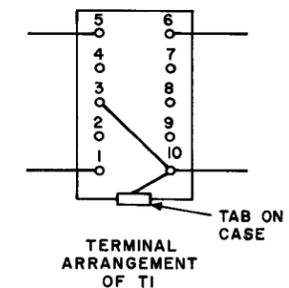
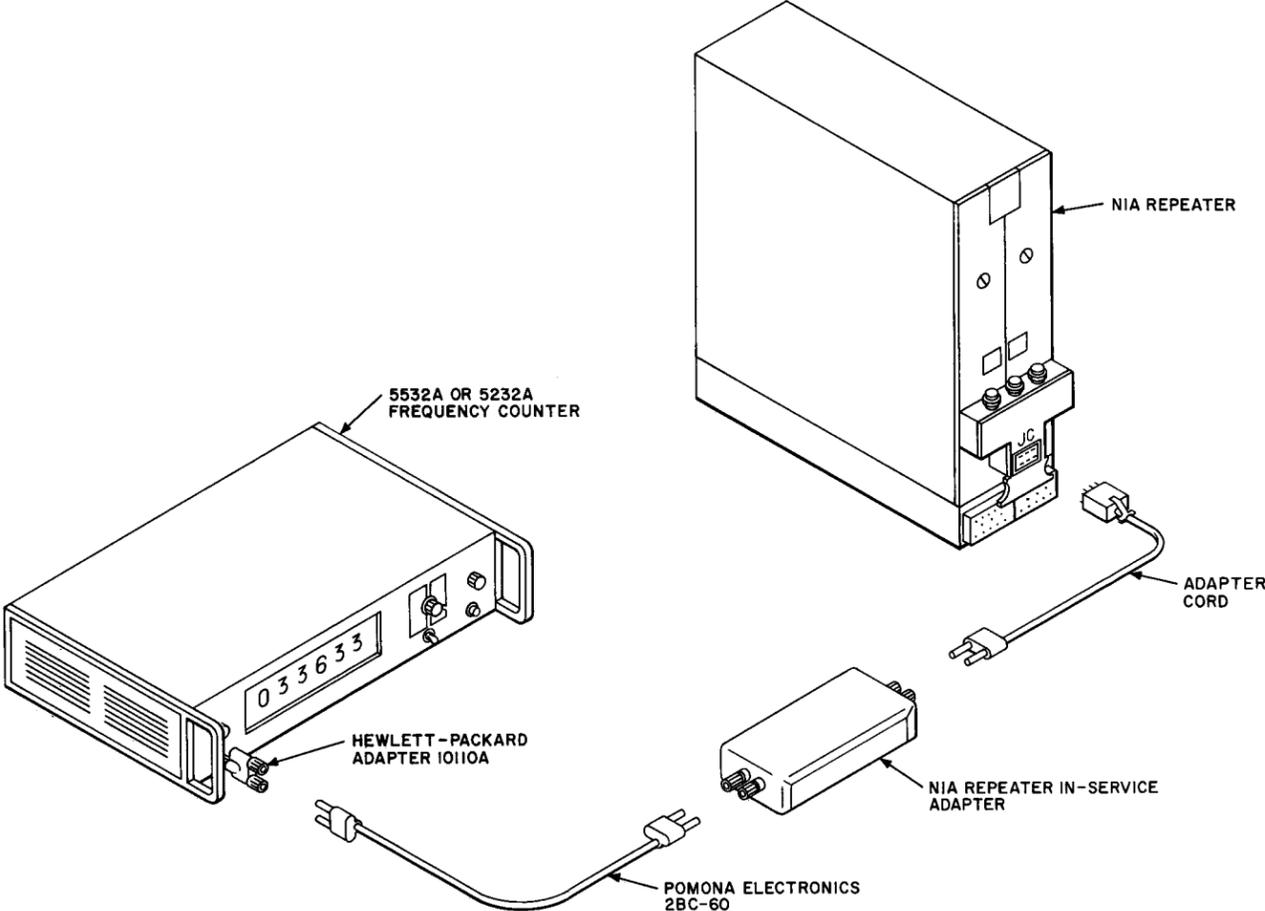

Fig. 1 — 304-KHZ Oscillator Frequency Measurement Adapter Unit for N1A Carrier Repeaters, Schematic
Fig. 4 — 304-KHZ Oscillator Frequency Measurement for NIA Carrier Repeaters
- 1 — N1A Repeater In-Service Adapter and Adapter Cord (May be made up locally as shown in Fig. 1)
1	<p>Note: In the N1A repeater, bypass capacitor C46 in the emitter of the 304-kHz oscillator second amplifier is small enough so that a measurable 304-kHz oscillator voltage exists across this capacitor. It is possible to obtain a sample of this voltage by connecting the adapter unit (shown in Fig. 1) between contacts JC3 and JC5 of the test jack located on the front of the repeater. In making this test, the voltage is measured ungrounded. A grounded measurement may introduce stray components from various line carriers into the counter and make the frequency measurements inaccurate. It is also necessary that this test circuit be provided to eliminate any dc continuity between these points in order to avoid disturbing the bias conditions.</p> <p>Insert the adapter plug (shown in Fig. 1) into the repeater jack on the front of the repeater and establish the test connections as shown in Fig. 4.</p> <p>Note: Energize the electronic counter and allow a 30-minute warmup period before performing tests.</p>